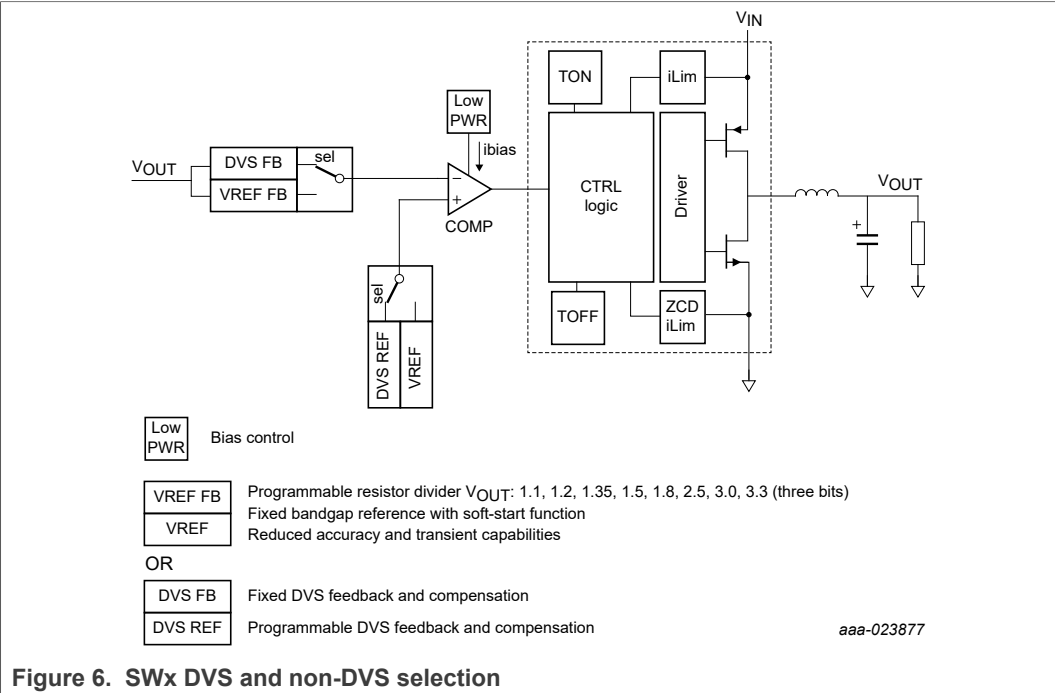

Figure 6. SWx DVS and non-DVS selection
- DVS enabled: a DVS reference is activated and output accuracy of the regulator is tight at the cost of slightly higher quiescent current. See Section 5.3 "Electrical characteristics" for details. In Figure 6, **DVS FB** and **DVS REF** are enabled via OTP for this mode of operation.
- DVS disabled: the regulator operates as a traditional buck converter with a fixed reference and soft-start. The quiescent current in this mode is lower at the cost of output accuracy and transient response. See Section 5.3 "Electrical characteristics" for details. In Figure 6, **VREF FB** and **VREF** are enabled via OTP for this mode of operation.